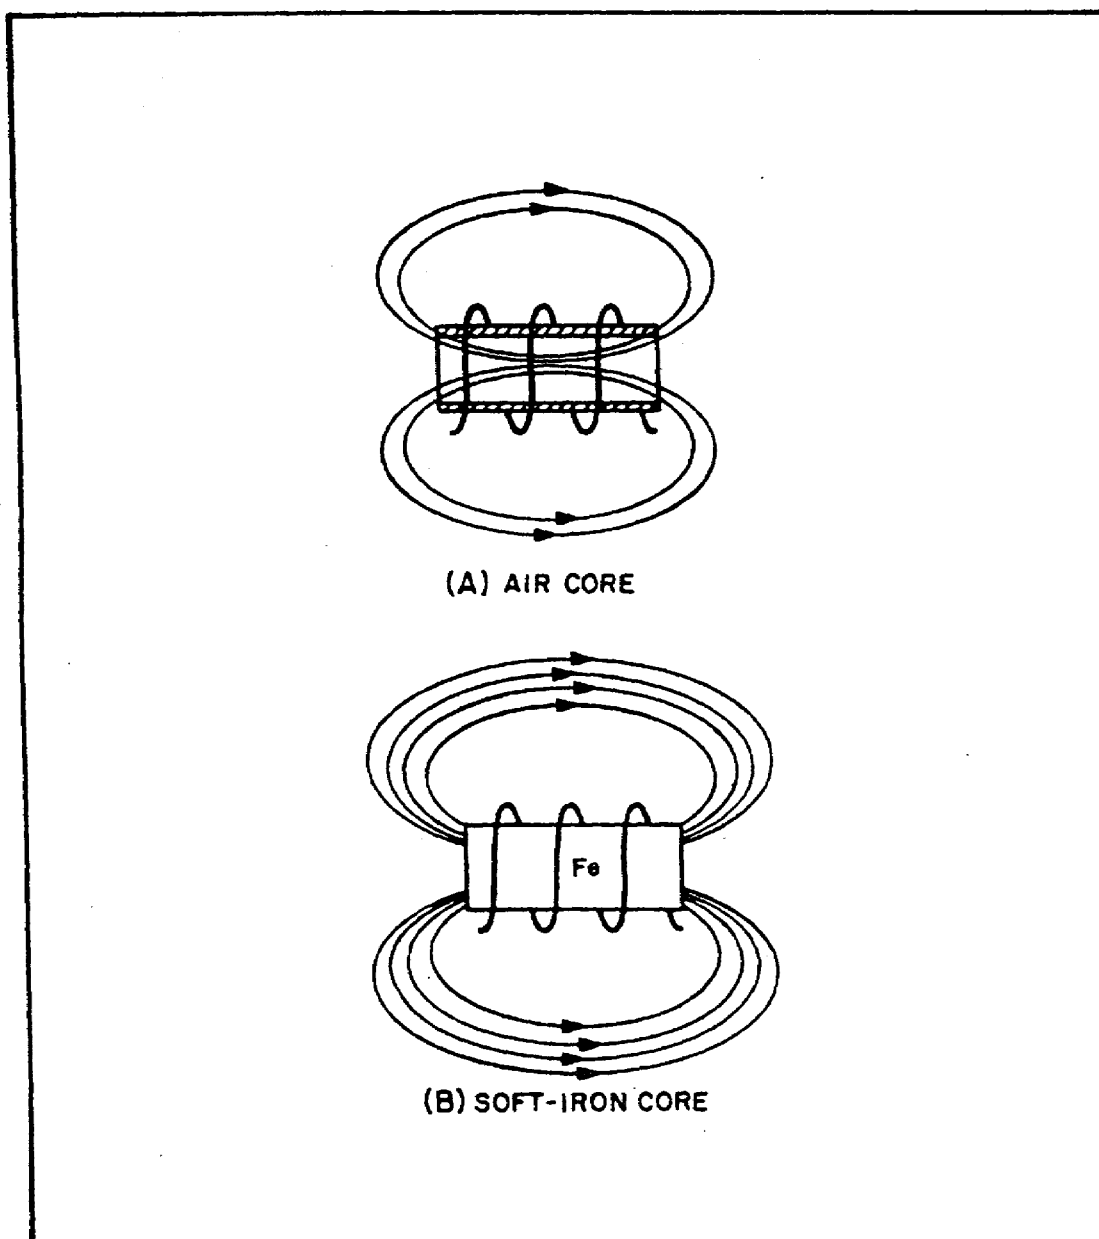

FIGURE 18. INDUCTANCE FACTOR (CORE MATERIAL).
(d) *Type of Core Material.* The fourth physical factor is the type of core material used with the coil. Figure 18 on the following page shows two coils: coil (A) with an air core, and coil (B) with a soft-iron core. The magnetic core of coil (B) is a better path for magnetic lines of force than is the nonmagnetic core of coil (A). The soft-iron magnetic core's high permeability has